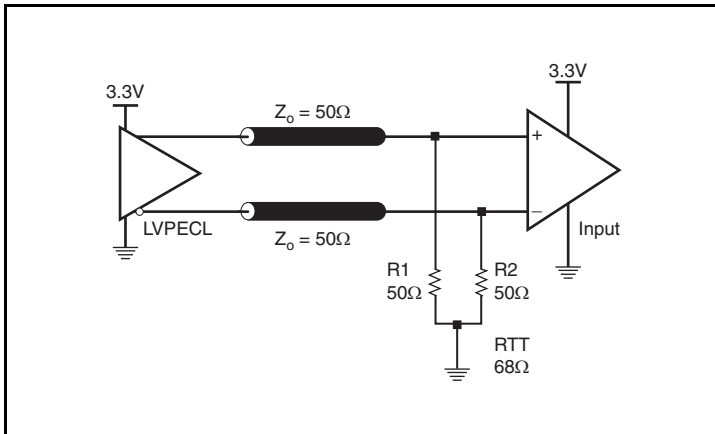

Figure 9A. 3.3V LVPECL Output Termination
*Figures 9A and 9B* show two different layouts which are recommended only as guidelines. Other suitable clock layouts may exist and it would be recommended that the board designers simulate to guarantee compatibility across all printed circuit and clock component process variations.